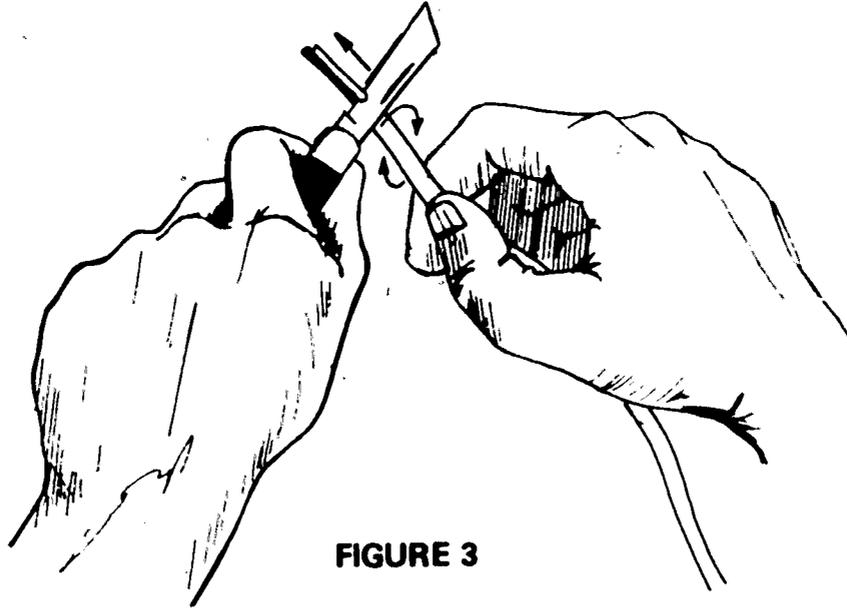

FIGURE 3
- G. Remove another chip (Figure 3)